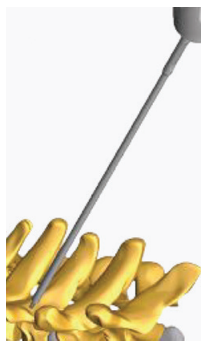

Figure 2
- After removing bone and/or soft tissue (as needed) to expose the bone / lateral mass, evaluate the anatomy to determine the appropriate position and orientation for the screw. Use the awl or a burr to perforate the cortex, creating a pilot hole (Figure 2). The tip of the awl is 2mm in diameter and 6mm in length. Repeat for all screw placement sites.